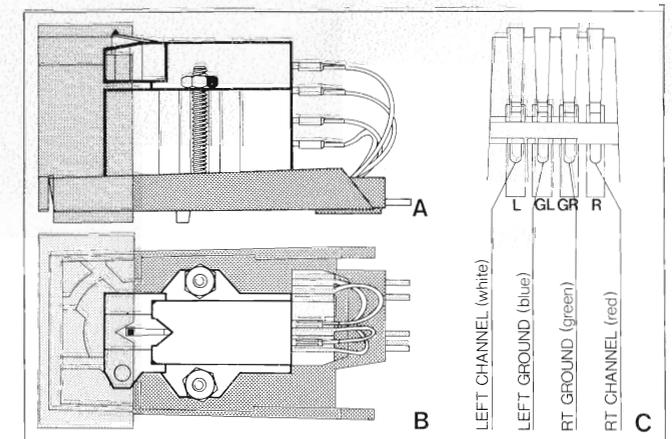

Fig. 4
2. Using the hardware provided, mount the cartridge on the cartridge holder. Use the special gauge provided to make sure that the cartridge is mounted correctly in the cartridge holder. (Note location of stylus tip in Fig. 4 A and B).
3. Connect the color-coded leads of the cartridge holder to the same color-coded pins of the cartridge (Fig. 4 C).